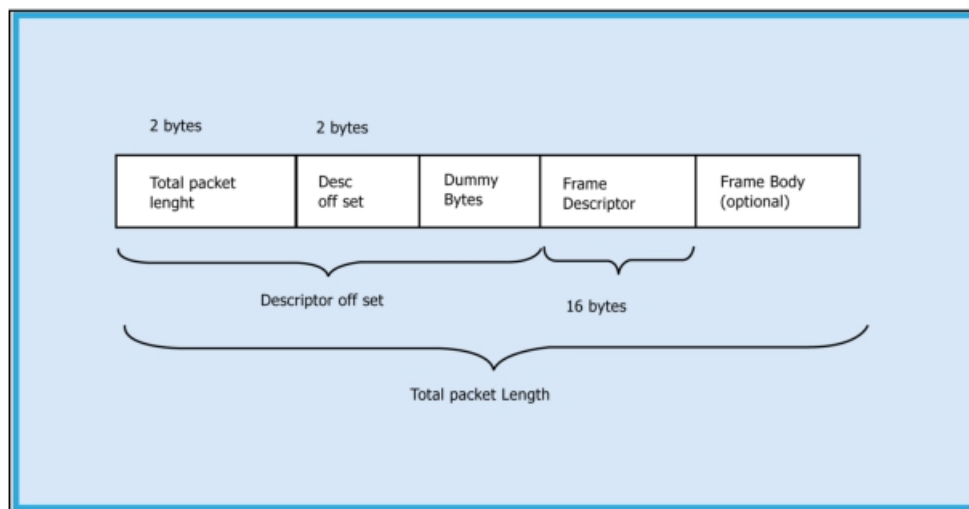

Figure 43: Command/Data Packet format from module to host in USB mode
- Prepare command frame with headroom as shown in **figure 43 : Command/Data Packet format from host to module in USB mode.**